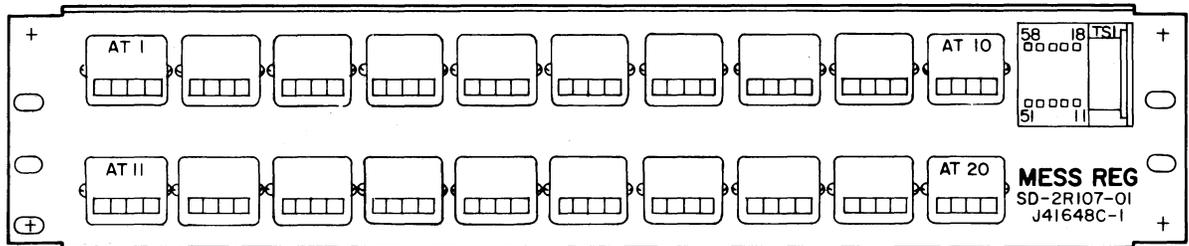

Fig. 4—J41648C
**J41648C—AT&TCo Std—Message Register Assembly (See Fig. 4)**